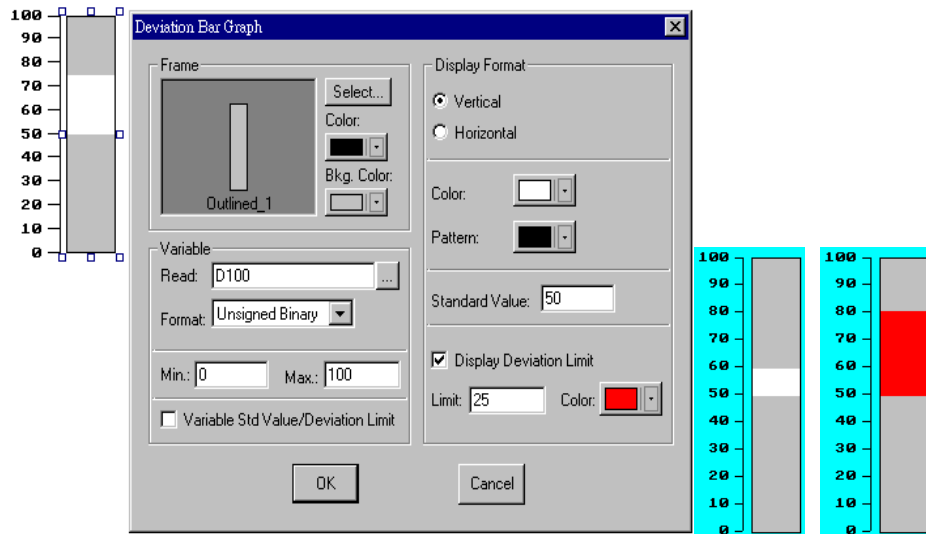

Fig. 2-16 Settings of Deviation Bar Graph Fig.2-17 Fig.2-18
HMI reads values of the PLC register and compares them with the normal. Then converts the difference as Bar Graph and displays on the HMI screen. See Fig. 2-16 for settings. When the PLC register D100 has a value of 60 (D100=60), it displays the PLC Value (60) – Normal (50) = 10. See Fig. 2-17. When the PLC has a value of 80 (D100=80), it displays the PLC Value (80) – Normal (50) = 30. Since 30 is greater than the Upper Limit (25), the display color is changed. See Fig. 2-18.